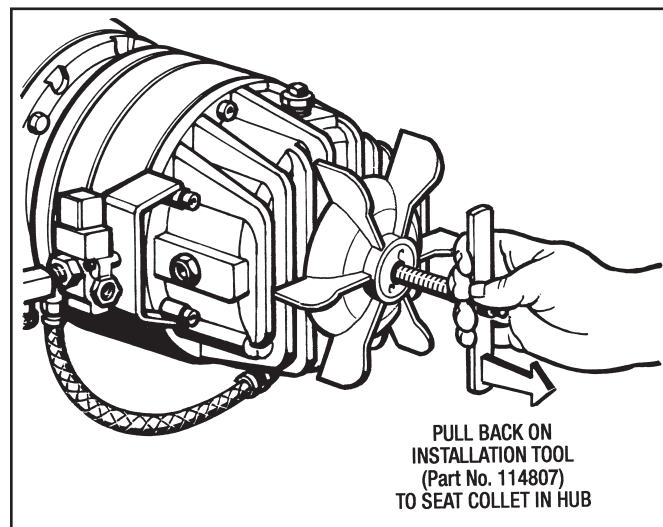
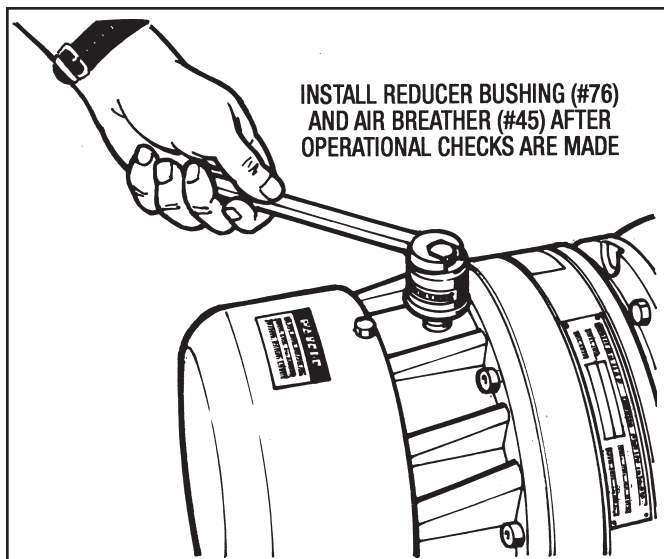

Figure 3.6 - Seating Collet into Hub
Figure 3.7 - Installing Air Breather (#45)
- Reattach the handle to the Installation Tool and manually pull back to seat the Collet (#110) into the Hub (#2) bore as shown in Figure 3.6.
- Reinstall the Fan Shroud (#24) with (4) Screws (#166) and (4) Lockwashers (#167).
15. Install Reducer Bushing (#76) and Air Breather (#45) into the top of the brake. (See Figure 3.7 below.)